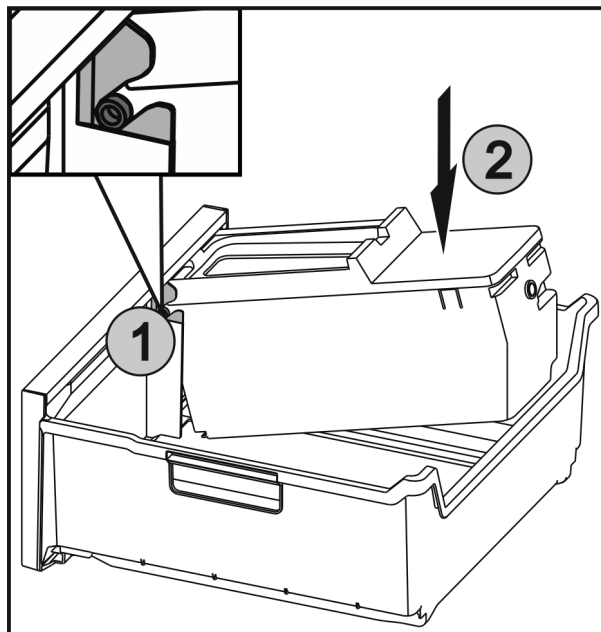

Fig. 40
- Insert the axles Fig. 40 (1) on the EasyTwist-Ice in the guides and push the rear side Fig. 40 (2) until the lug engages.